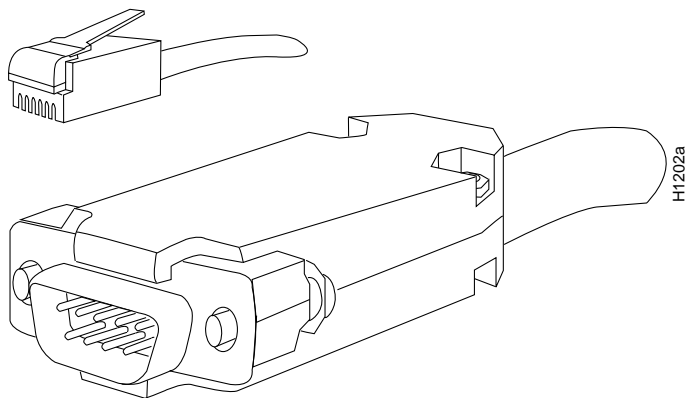

Figure 3-8 Token Ring Network (RJ-11) Connector and Chassis (DB-9) Connector
- Token Ring network (RJ-11) connector and chassis (DB-9) connector, Figure 3-8